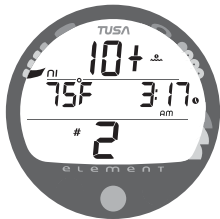

Fig. 59 - SURFACE MODE
- Surface Interval Times greater than 9:59 (hr:min) will be displayed only as Hours 10+, 11+, 12+, etc. (Fig. 59)